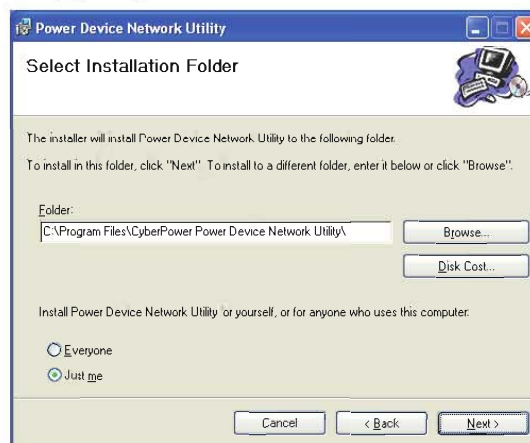

Figure 2: Installation folder & settings
Step 4: Choose an installation directory and user settings. Select Next. [Figure 2]